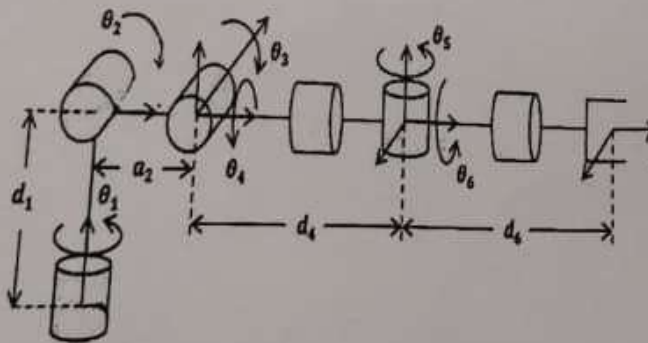

Fig. 4
- 9.(b) Figure 4 depicts the forward kinematic diagram of a manipulator. Sketch the frame and fix the DH table.